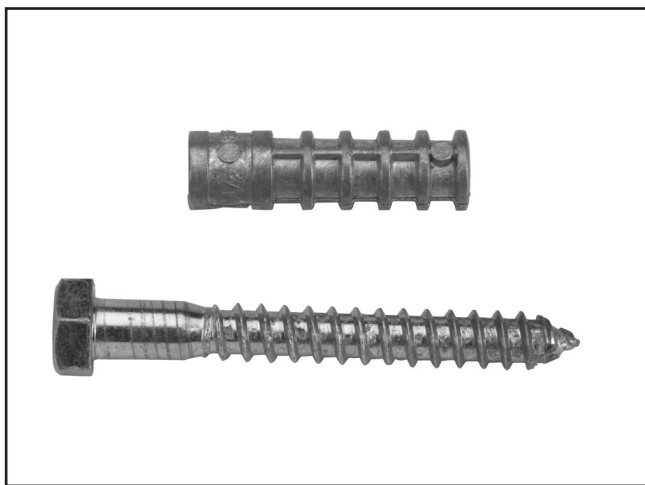
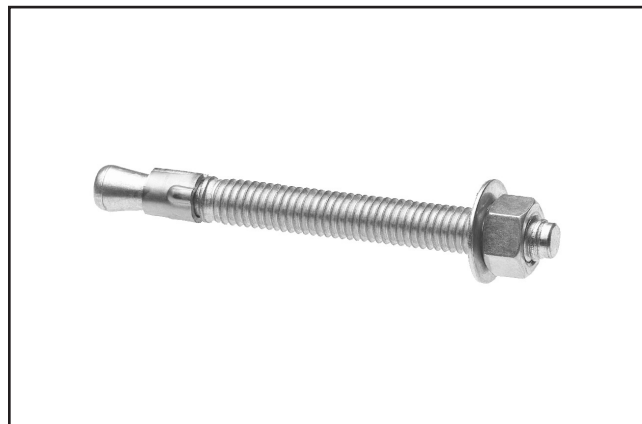

Figure 9. Typical lag shield anchor and lag bolt.
Figure 10. A typical anchor stud.
Lag shield anchors with lag bolts (**Figure 9**) and anchor studs (**Figure 10**) are two popular methods for anchoring an object to a concrete floor. We suggest you research the many options and methods for mounting your pan and box brake and choose the best that fits your specific application.
*Note—Anchor studs, as shown in **Figure 10**, are stronger and more permanent alternatives to lag shield anchors; however, they will stick out of the floor, which may cause difficulties if you decide to move your pan and box brake at a later point.*